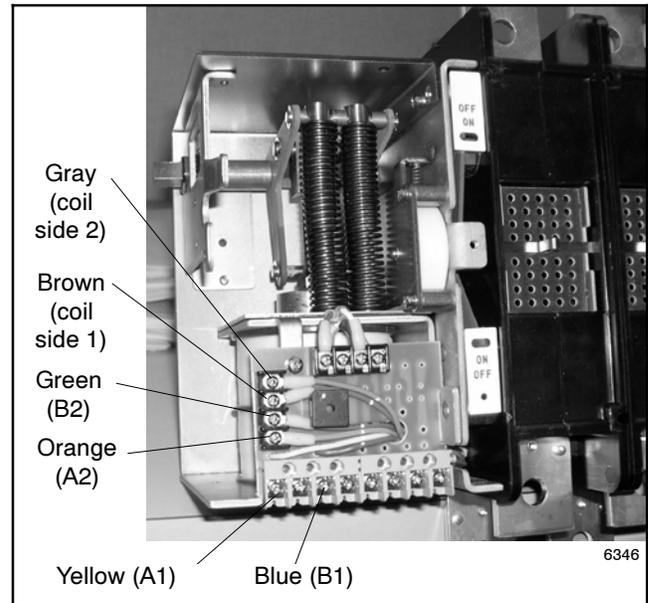

Figure 5-15 400 Amp Contactor Assembly, Cover Removed
1. Remove the cover from the electronic section of the contactor assembly and disconnect the brown and gray coil leads. See Figure 5-15.
11. After testing, disconnect both sources and manually operate the switch to the normal position. Reconnect the coil leads to the terminals shown in Figure 5-15. Replace the cover on the electronic section of the contactor assembly. Secure the ATS enclosure door before reconnecting power.
2. Remove the cover from the electronic section of the contactor assembly. See Figure 5-15.
If a control switch does not operate as required, check the connections before replacing the switch. See Section 7.7 for instructions to separate the electronic and mechanical sections of the contactor assembly. See Figure 7-26 for the control switch location. Before disconnecting the switch leads, see Figure 5-15 and note the lead colors for reconnection of the new switch.